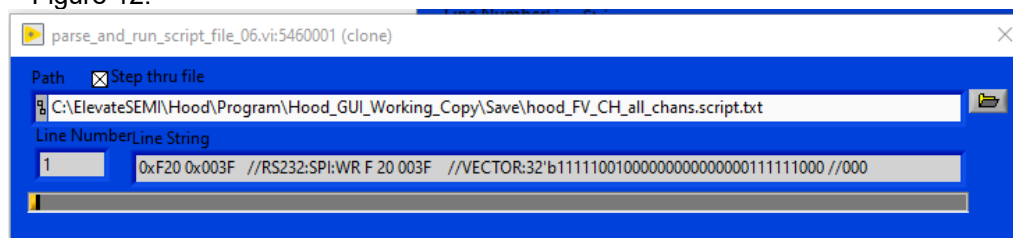
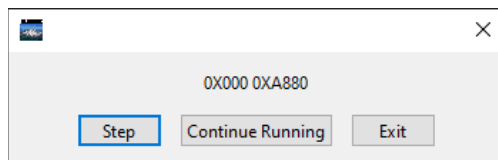

Figure 11: Load From File
Figure 12: Load from File Step/Continue
- i. Selected: Step through the selected setup file selected and will wait between each write command for the user to continue. Shown below in Figure 11 and Figure 12.